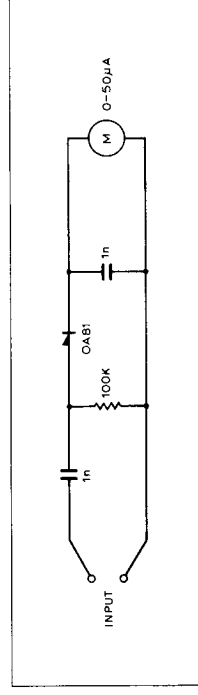

Fig. 4.2 Diode Probe
- 6. Set the d.c. output from Regulator Unit (8) to 9.5 V by adjustment of 8RV1.
- 7. All readings taken using standard meter leads except where 'Probe' is specified. Diagram of diode probe is shown at Fig. 4.2.
- Modulator/Driver Unit (12)